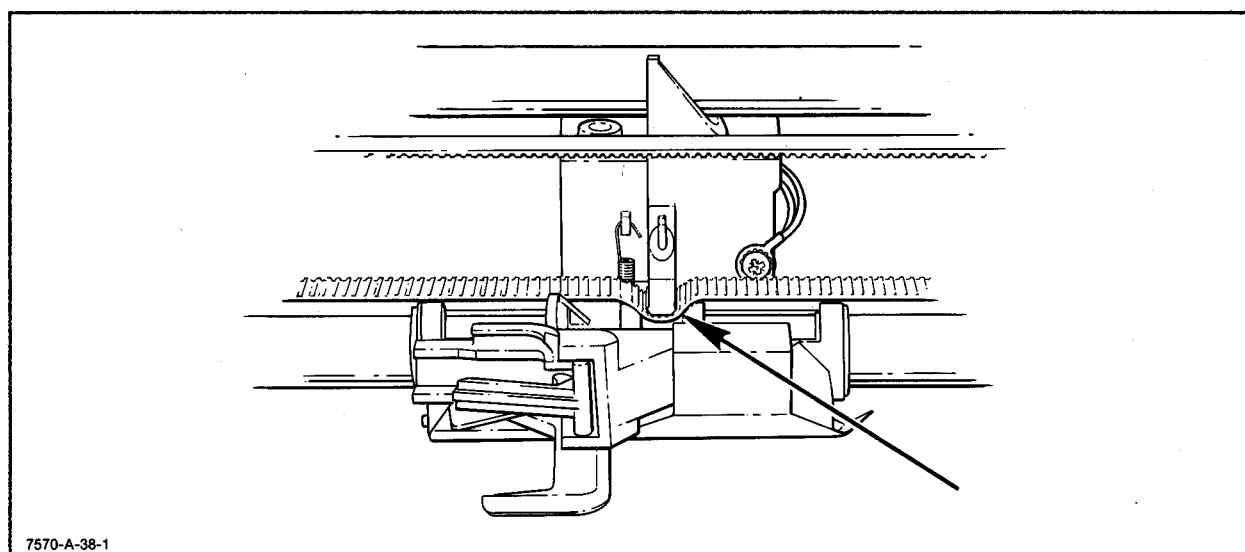

Figure 6-35. Pen Carriage and Main Belt
- f. Disconnect the belt from the pen carriage assembly. See Figure 6-35.